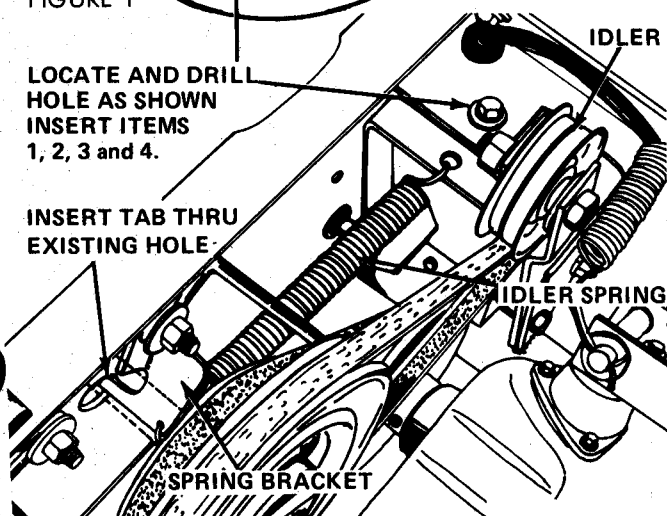

FIGURE 2
2. The new spring anchor is installed on one of the belt finger bolts, with a tab projecting through a hole in the side frame. See Figure 2. Remove the nut, lockwasher and flat washer from the belt finger; Discard the flat washer; Install the spring anchor as shown in Figure 2; and replace the lockwasher and nut.